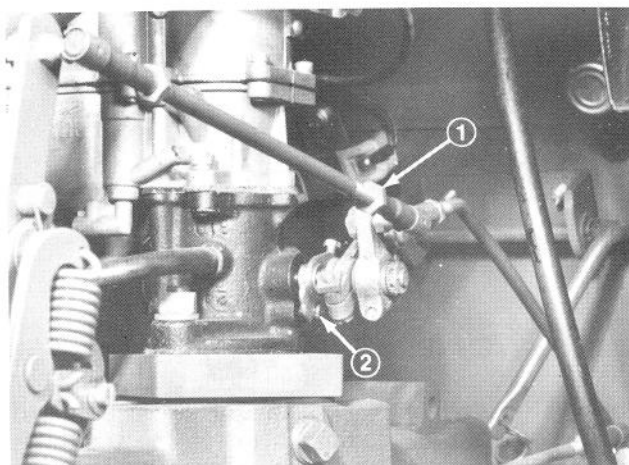

Figure 53
3. With the engine shut off, move the throttle lever to full speed position (all the way back). Loosen the jam nuts and adjust the control rod length to provide 1/32 inch (0.79 mm) clearance between the carburetor bell crank and the stop pin on the carburetor (Fig. 53).